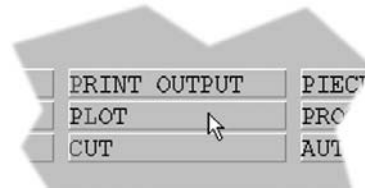

Figure 9. Accumark™ Plot Window.
3. Choose **Plot** to open the **Plot Window**. (Figure 9.)